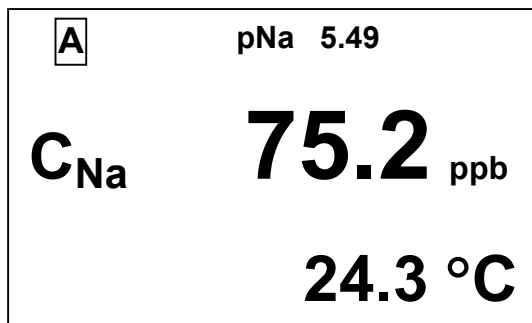

Fig. 1.7
- single channel (A or B) measurement display as shown in Fig. 1.7, 1.8, 1.9;